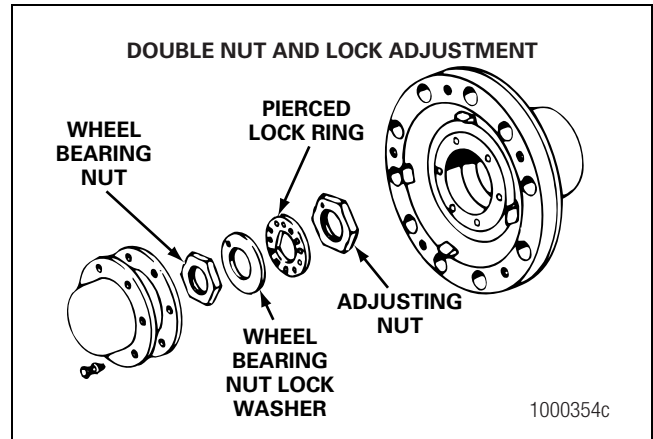

Figure 4.1
- A. For double nut and lock fasteners, bend the tabs of the flattened lock washer away from the wheel bearing nut and the adjusting nut. Figure 4.1.
- B. Remove the wheel bearing nut, the lock washer, the pierced lock ring and the adjusting nut from the knuckle. Figure 4.1.